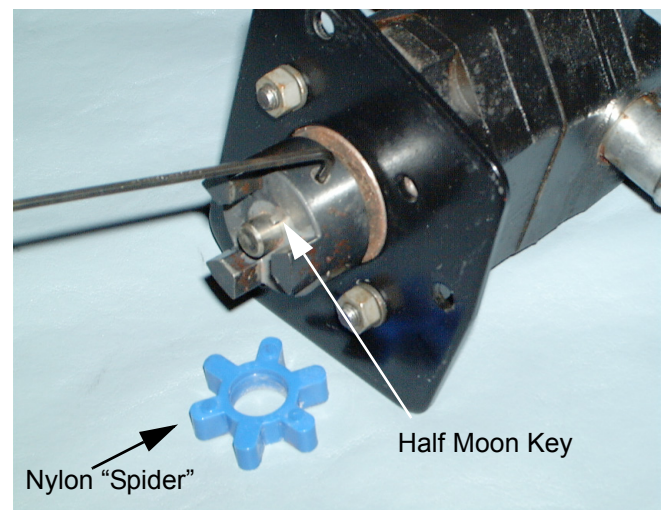

Figure 5
6. Make certain there is a half-moon key between the pump input shaft and the lower coupling half. _____ See Figure 5.